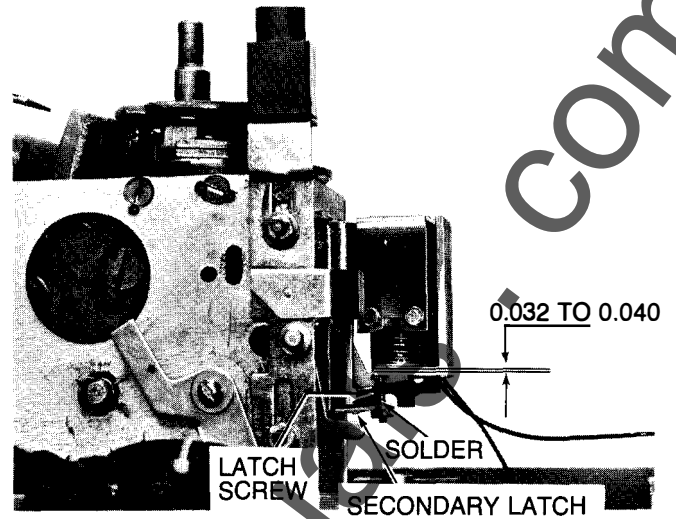

Figure 18.
3. Now temporarily install the breaker cover and charge and close the breaker as before. Check that there is a gap between the face of the flux shifter plunger, and the top of the latch screw as shown in Figure 18. If adjustment is required, a soldering iron must be used to loosen the screw. If a new latch was installed, adjust the screw as required and lock with a rosin core solder such as Kester #44.